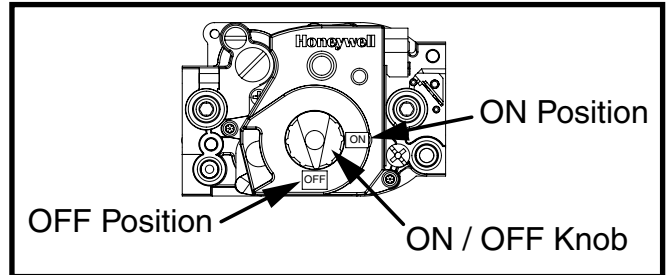

Figure 3. Honeywell Gas Valve
2. Is the On/OFF switch (inside the blower compartment) turned on? See Figure 3, (page 6).
5. Set the gas valve ON/OFF knob / switch to the OFF position. See Figure 3 or Figure 4 for gas valve type and knob / switch location.